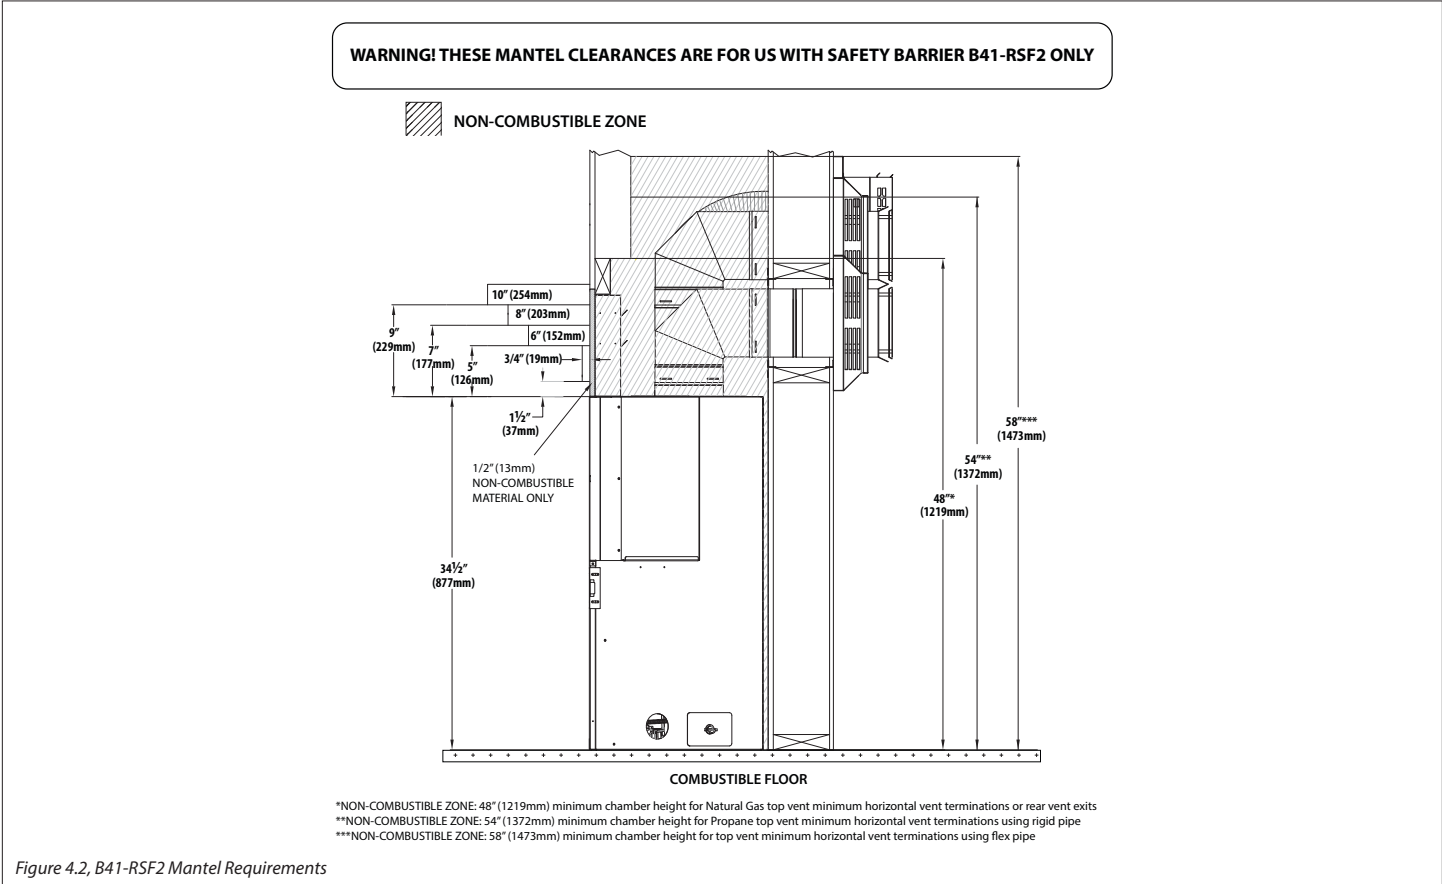

Figure 4.2, B41-RSF2 Mantel Requirements
**Combustible Mantel Projections FOR B41-RSF2 ONLY:** As referenced in Figure 4.2 (page 19), the 3/4" (19mm) trim can start at 1-1/2" (38mm) above the top of the appliance with a 6" (152mm) mantel starting at 5" (127mm) above the top of the appliance. Mantel projections can increase 1" (25mm) of depth for every 1" (25mm) of height starting at the 6" (152mm) mantel.